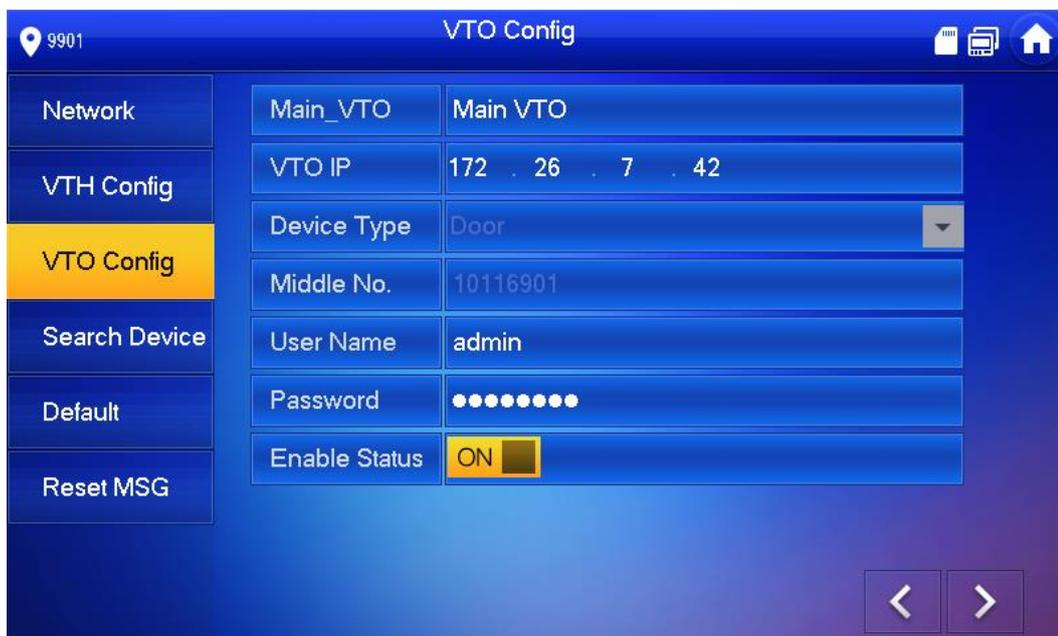

Figure 2-13
The system displays “VTO Config” interface, as shown in Figure 2-13.
1. In Figure 2-13, enter main VTO name, VTO IP, “User Name” and “Password”.